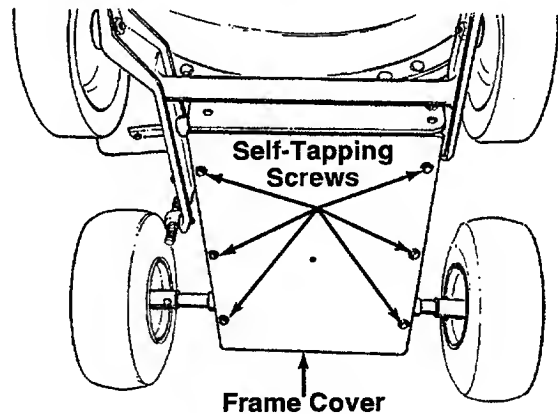

Figure 18
3. Remove the frame cover by removing eight self-tapping screws from underneath the chipper-vacuum. See Figure 18.
4. Remove the frame cover by removing eight self-tapping screws from underneath the chipper-vacuum. See Figure 18.